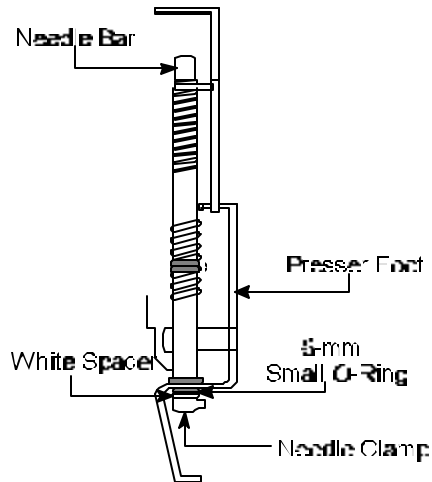

Figure 6
16. Hold Needle Bar and Presser Foot together and **remove** needle clamp, white spacer and 6 mm O-ring. See Figure 6.